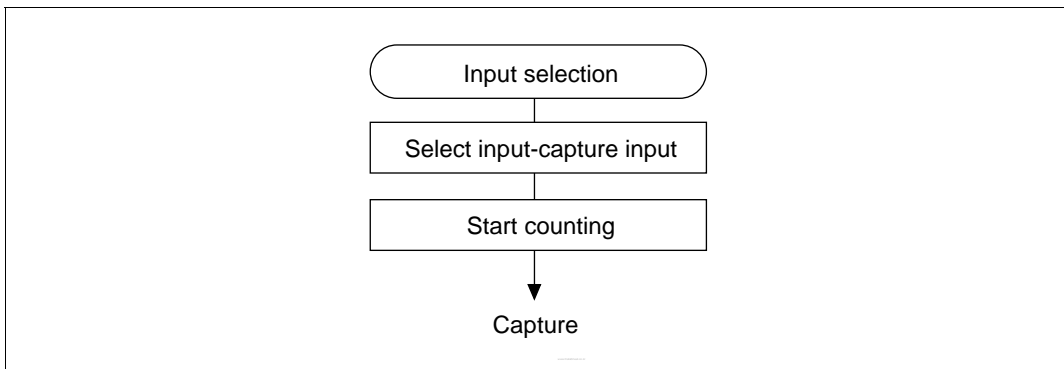

Figure 10.23 Procedure for Selecting Input Capture Mode
- Procedure for selecting the input capture mode (figure 10.23)